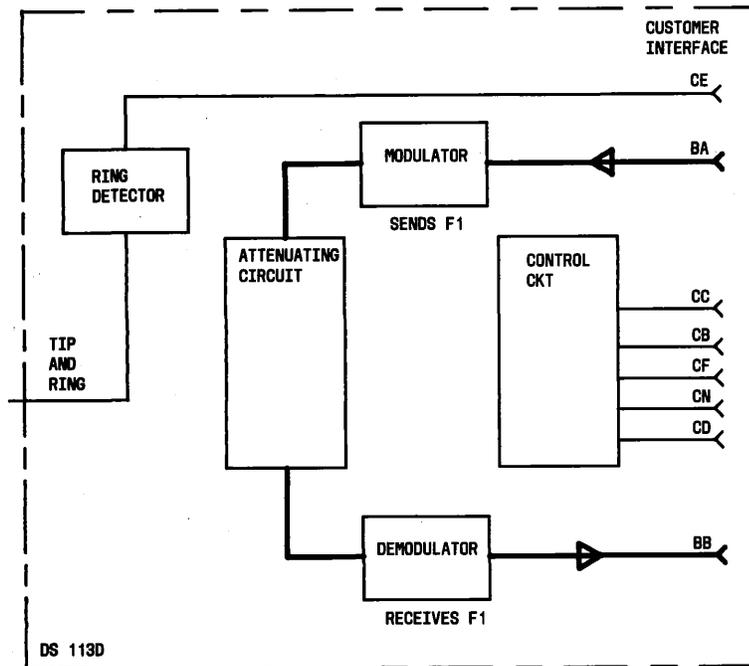

Fig. 1—Analog Loop-Back Test Mode—Simplified Block Diagram
2.03 In the analog loop-back test mode (Fig. 1), the data set is isolated from the telephone line, with the exception of the ring detector circuit. During this test the data set circuits are modified so that the transmitter operates in the f_1 mode. The output of the transmitter is looped via an attenuating circuit to the receiver.